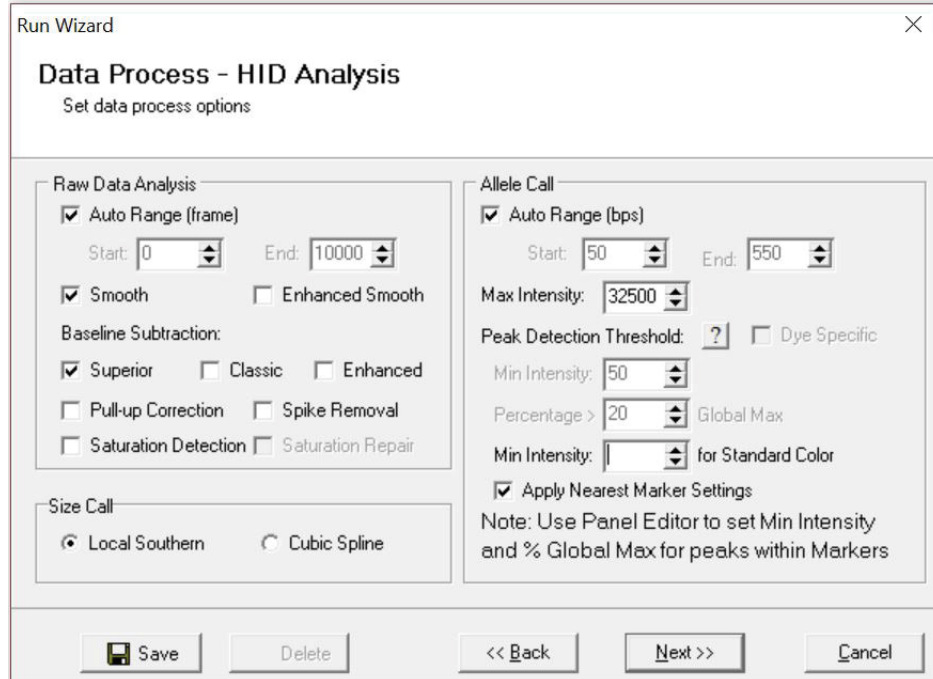

Figure 22. The 'Data Process' window for an analysis method.
- The 'Data Process – HID Analysis' window will appear (Figure 22). For the Raw Data Analysis, we recommend using Auto Range, Smooth, Superior Baseline Subtraction and Local Southern for the Size Call.